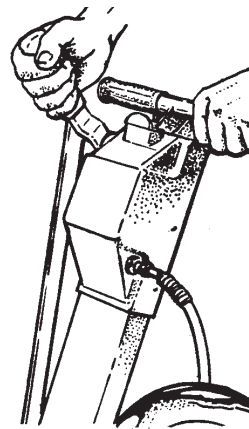

Figure 1
- 1 Lower sanding drum with control lever. (Figure 1)